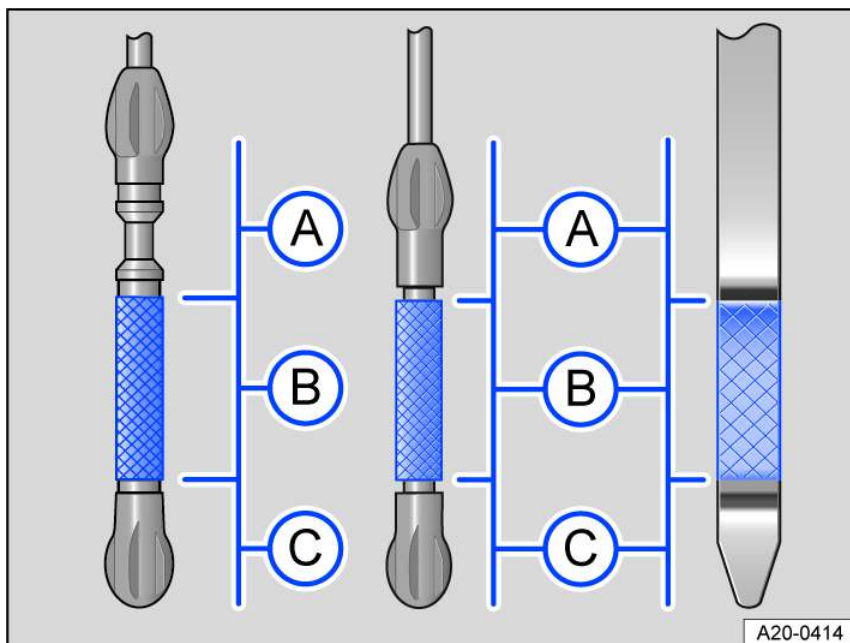

Fig. 155 Engine oil level markings on the oil dipstick (versions).
3. Remove the dipstick again and read the oil level on the dipstick as described below *fig. 155*:
5. When you are done adding oil, the oil level should be in the center of area *fig. 155* Ⓑ. The engine oil level must not be in the area *fig. 155* Ⓐ.
6. If you accidentally add too much oil and the oil level is in area *fig. 155* Ⓐ, do not start the engine. Contact an authorized Volkswagen dealer or authorized Volkswagen Service Facility for assistance.
- If the oil level is in the *fig. 155*  range, do not start the engine, and contact an authorized Volkswagen dealer or authorized Volkswagen Service Facility.